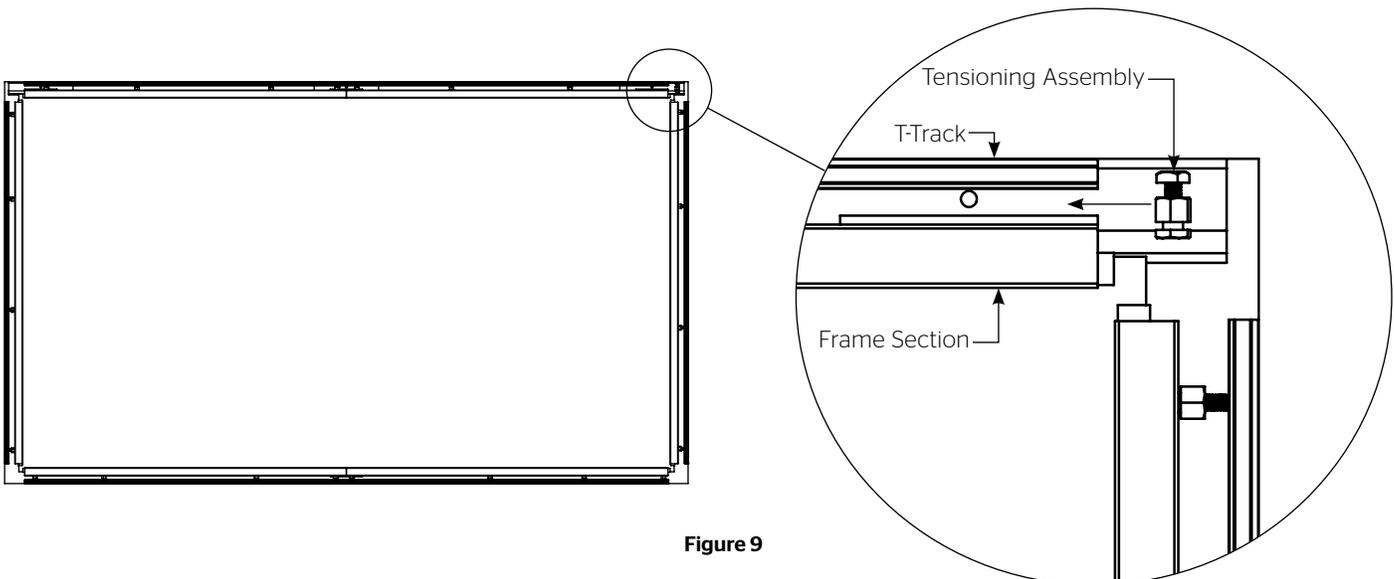

Figure 9
23. At the top section, align the T-track and the frame. Insert eight tensioning assemblies (O) (four per frame section for larger screens). Align the tensioning assemblies (O) so that they are evenly spaced across the length of T-track and frame (See Figure 9)
24. Tighten a minimum of two tensioning assemblies (O) per frame section between the T-track and frame using a 1/2" wrench. After two or three turns on one tensioning assembly, move to another in order to prevent the bolts and nuts from binding. Keep using this alternating method until at least two (or more) tensioning assemblies, per frame section, have secured the frame to the T-track on the top section of the screen assembly. As the tensioning assemblies are tightened the screen frame will pull gradually closer to the T-track. Do not tighten fully at this time.